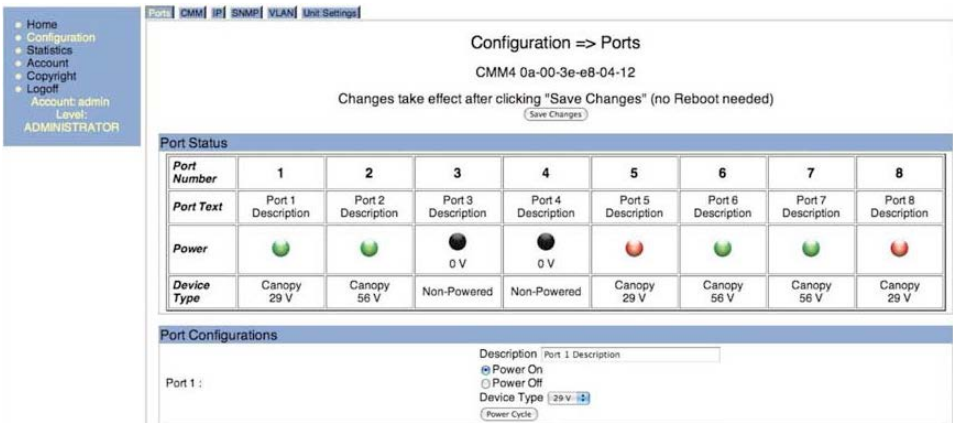

Figure 14: CMM Port Configuration for UGPS Power
- 4 On the CMM4 web management GUI navigate to **Configuration > Ports**. In this configuration the CMM4 port connected to the UGPS via RJ-45 cable must be configured with **Power On** and **Device Type Canopy 29V** as Port 1 in Figure 14.